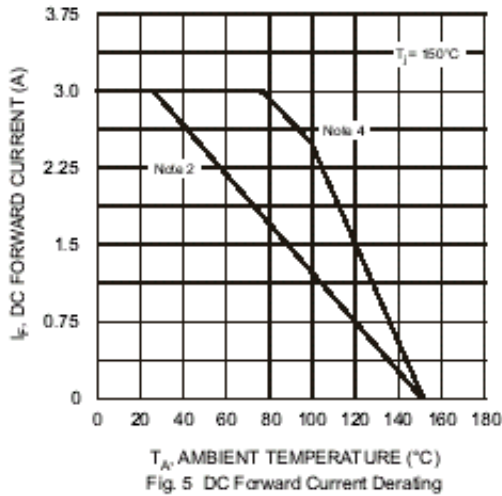

Fig. 5 DC Forward Current Derating
- Average Rectified Output Current (I_O): 3 Amps for Single phase, half wave, 60Hz, resistive or inductive load (also see Figure 5). For capacitive load, derate current by 20%.